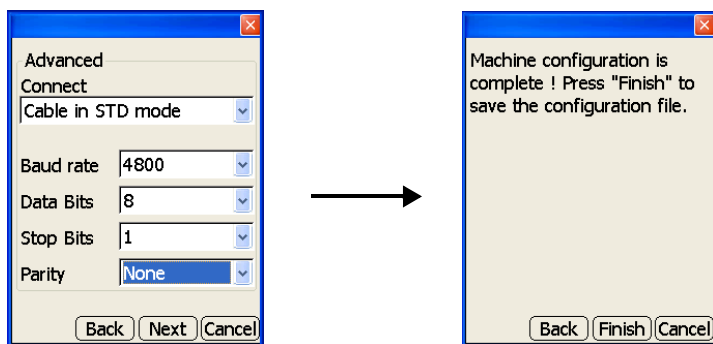

Figure 2-60. Select Advanced Parameters
5. On the *Advanced* dialog box, select the connection type, Baud rate, Data Bits, Stop Bits, and Parity used for communication with the total station and press **Next** to continue (Figure 2-60).
6. Press **Finish** to save the configuration file (Figure 2-60). Pressing Cancel will cause the configuration's information to be lost.